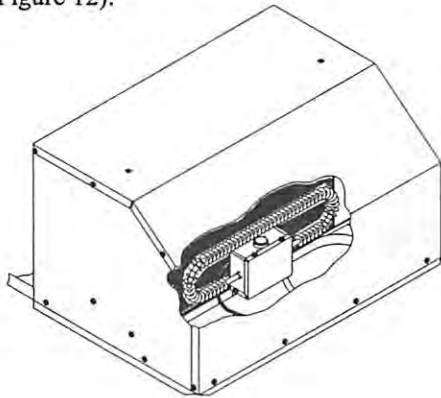
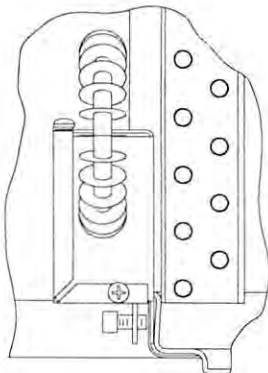

FIGURE 10
FIGURE 11
- C. If equipped with Elect-A-Heat option, remove the heater assembly from the ceiling assembly chute. Position the heater assembly in the air conditioner return air opening as shown in Figure 10. The heater bracket must be installed over the metal basepan extrusion and positioned between the basepan and the plastic drain pan (See Figure 11). Tighten set screw to secure the assembly so as to prevent movement.